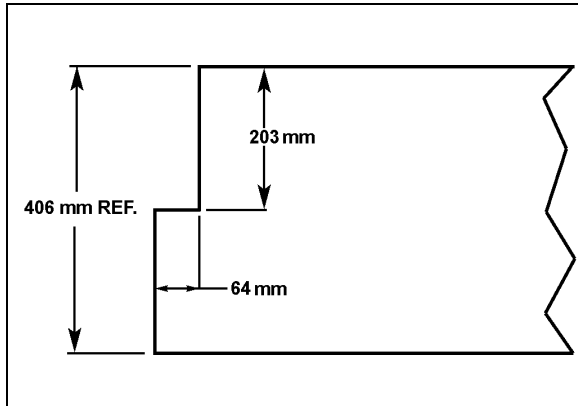

FIGURE 7: CUTTING LATERAL PANEL
5. Cut interior lateral panel as indicated in figure 7 then reinstall interior finishing trim.